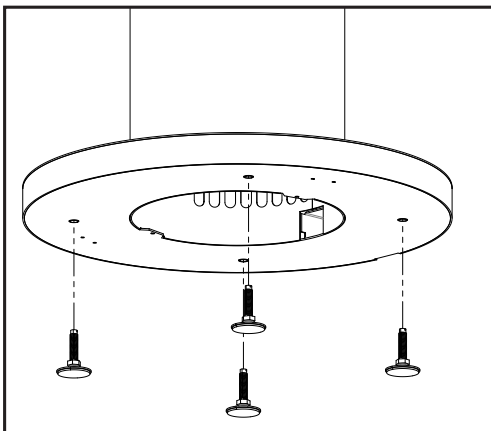

Figure 77: Pole Pedestal Leveling Feet
The pole pedestal comes packaged with four (4) hex head bolts and four to secure the pedestal onto the unit. Align the pedestal vent slots with those on the bottom of the unit. Fasten the pole pedestal to the unit using the same threaded holes that the leveling legs were installed in (see Figure 77).